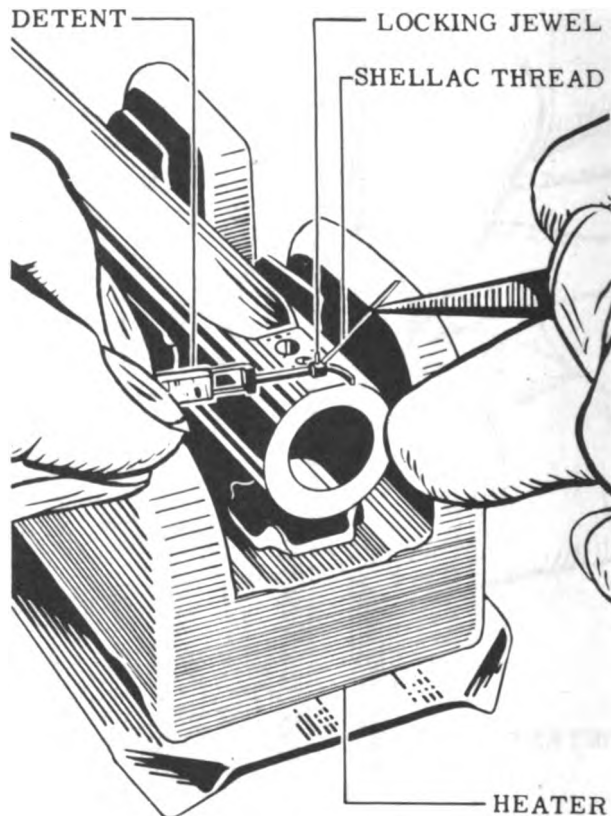

Figure 60
10. Heat detent by holding on heating fixture, Tool No. 67. See Fig. 60. Insert thread of jewel-setting shellac at the bottom and top of the detent so it flows around the locking jewel.